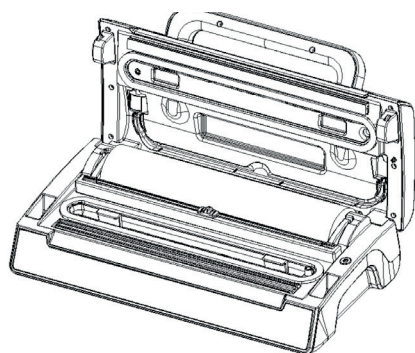

Fig. 1
1. Open the top cover. (Fig.1)